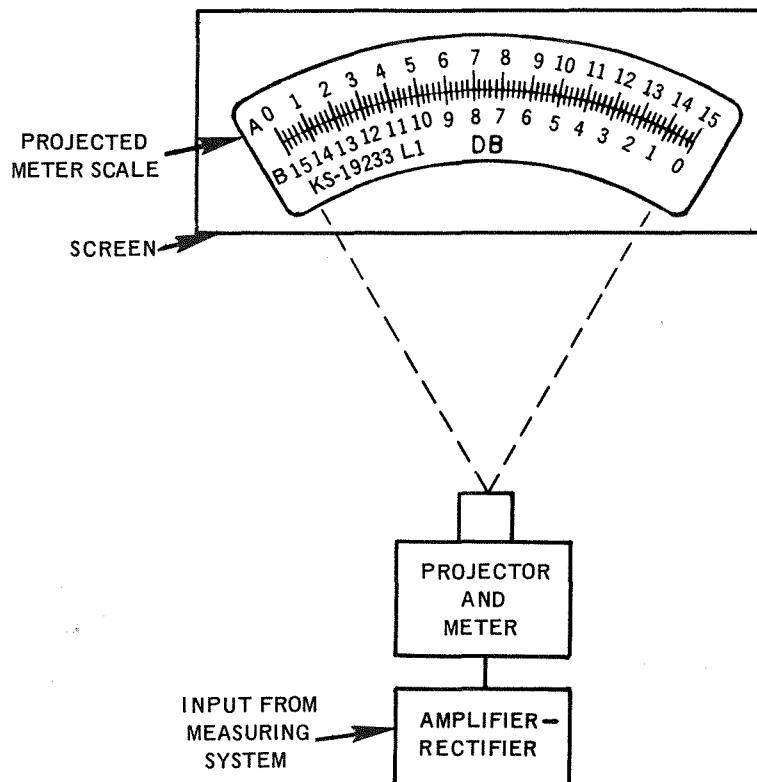

Fig. 1 – Basic Arrangement
and noise measuring system per SD-95900-01, transmission measuring systems per SD-59432-01 and SD-1G073-01, and noise measuring systems per SD-59433-01 and SD-1G074-01. The meter is housed in the meter compartment of a projector, and enlarged images of the scales and pointer are projected on a screen. This provides visibility along a line of testboard positions, voice-frequency patch bays, or other equipment bays. The basic arrangement is shown in Fig. 1.
2.02 The meter has two 15 db scales, one the inverse of the other. Each scale has uniform db divisions and 0.2 db subdivisions. The A scale (usually red) is marked 0 through 15. It is used for measurements of gains or levels above a milliwatt and for noise measurements above reference noise. The B scale (black) is marked 15 through 0 and is used for measurements of losses or levels below a milliwatt. The markings on the meter scales are shown in Fig. 1. The scales, when projected on a screen, have a precision better than ± 0.15 db at any point in the scale range.